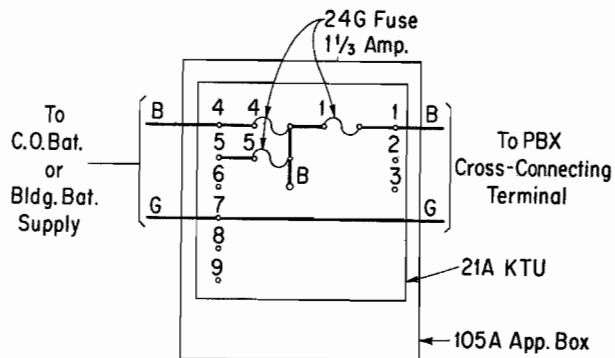

Fig. 7 — Fusing for 507-type PBX When CO or Building Battery Fuses Are Inaccessible
4.38 Fusing Battery Feeders: The CO battery or building battery fuses, as normally provided, are sufficient for fusing the battery feeders. Where these fuses are not readily accessible at all times, additional fuses as per Fig. 7 should be provided and mounted on a 21A key telephone unit housed in a 105-type apparatus box.